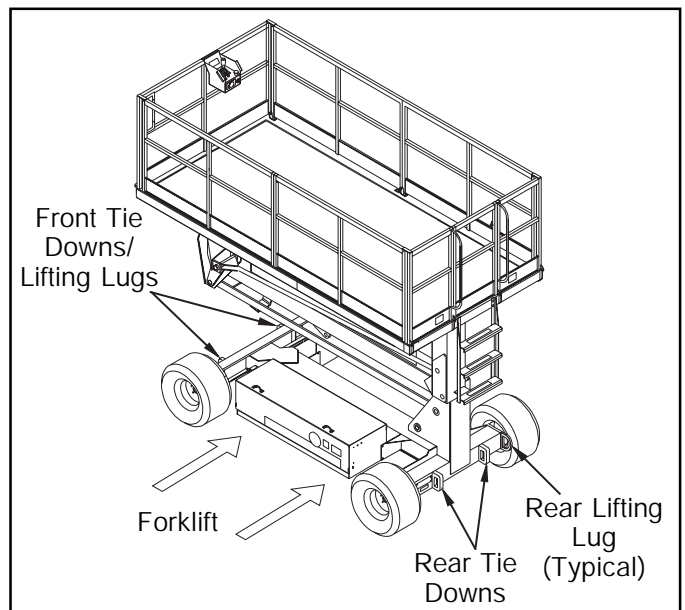

Figure 5: Transporting Work Platform
Forklift from side of Chassis by lifting under the Chassis Modules (Figure 5).
1. Secure straps to Lifting Lugs only (Figure 5).
2. Secure the work platform to the transport vehicle with chains or straps of adequate load capacity attached to the chassis tie down lugs (Figure 5).